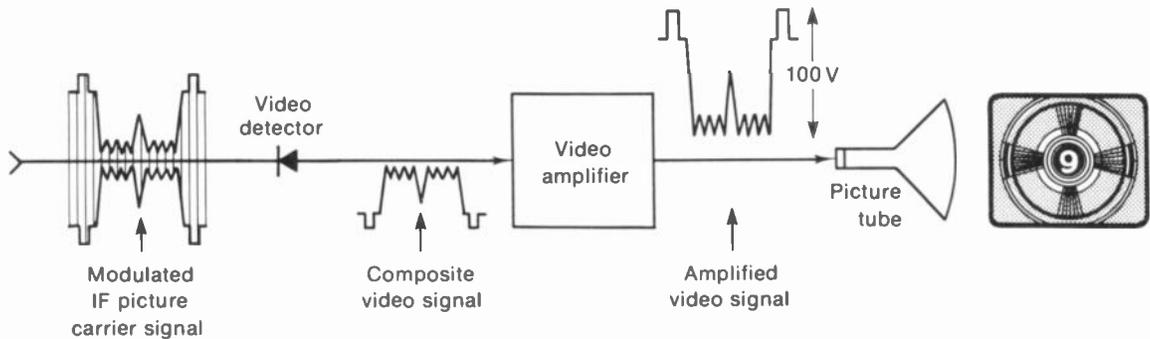
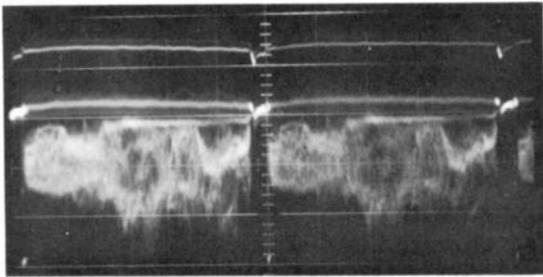

FIGURE 13-1 THE VIDEO SIGNAL COUPLED TO THE CATHODE-GRID CIRCUIT OF THE PICTURE TUBE REPRODUCES THE PICTURE INFORMATION ON THE RASTER.
FIGURE 13-2 OSCILLOSCOPE PHOTO OF VIDEO SIGNAL VOLTAGE AT CATHODE OF PICTURE TUBE. AMPLITUDE IS 100 V p-p.
As shown in Fig. 13-1, the video section amplifies the output from the video detector. With signal of 2 V, peak to peak, one or two video amplifier stages can provide output of 100 V to the cathode of the picture tube for good contrast. Typical video signal for the picture tube is shown in Fig. 13-2. In color receivers, the video section amplifies the luminance (Y) signal, with essentially the same requirements as in monochrome receivers. The video amplifier is often dc-coupled from the video detector to the picture tube, in order to preserve the dc component for correct brightness, as explained in the next chapter. Here, we analyze the problems of amplifying the ac video signal with frequency components from 30 Hz to 3.2 MHz, approximately. The main features of the video signal and video amplifiers are explained in the following topics:
2. *Positive sync polarity.* See the video signal coupled to the picture tube in Fig. 13-1 for cathode drive. The sync voltage is the positive peak of the signal, while the white video is the most negative part.
in Fig. 13-1. Video signal with negative sync polarity from the detector is inverted by the video amplifier to provide positive sync polarity in the video signal driving the cathode of the picture tube.